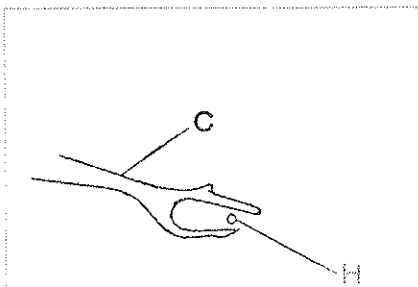

图 23 Fig.23
② 作上述调整后, 必须检查钩线叉在左端(图 23)时, 机针“H”的针尖应在钩线叉“C”的叉口中间或机针稍低于中间位置通过。如有相撞, 必须作相应调整, 达到左右兼顾。
(3) Adjustment of the position of the thread hook
② When the thread hook locates at the left end (Fig.23) after completing the said adjustment, the needle point "H" shall be in the middle of the prong of the thread hook "C". The needle can also pass the thread hook at a location lower a bit than the middle. Microadjustment can be made if the needle point comes into contact with the thread hook.